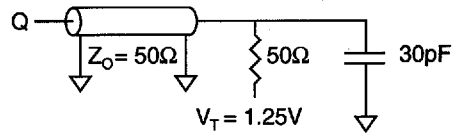

Fig. 1 OUTPUT LOAD EQUIVALENT
Output load	See Figures 1 and 2
- Test conditions as specified with the output loading as shown in Fig. 1 unless otherwise noted.
- Output loading is specified using Fig. 1 with C_L = 5pF versus 30pF. Transition is measured ±150mV from steady state voltage.